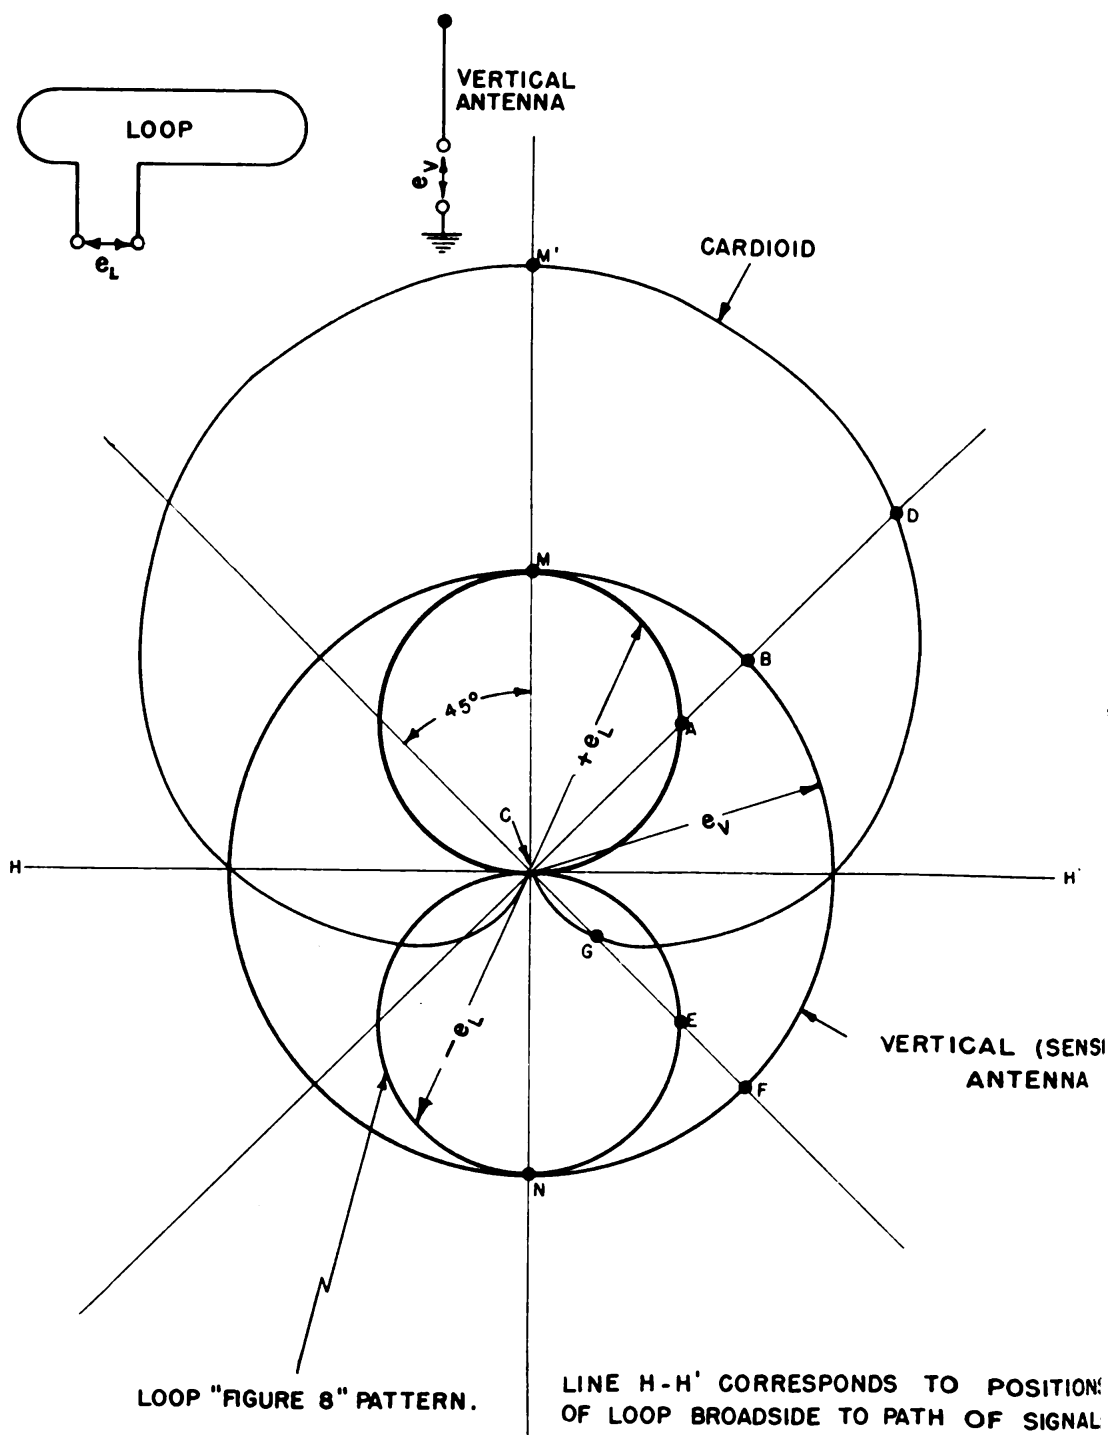
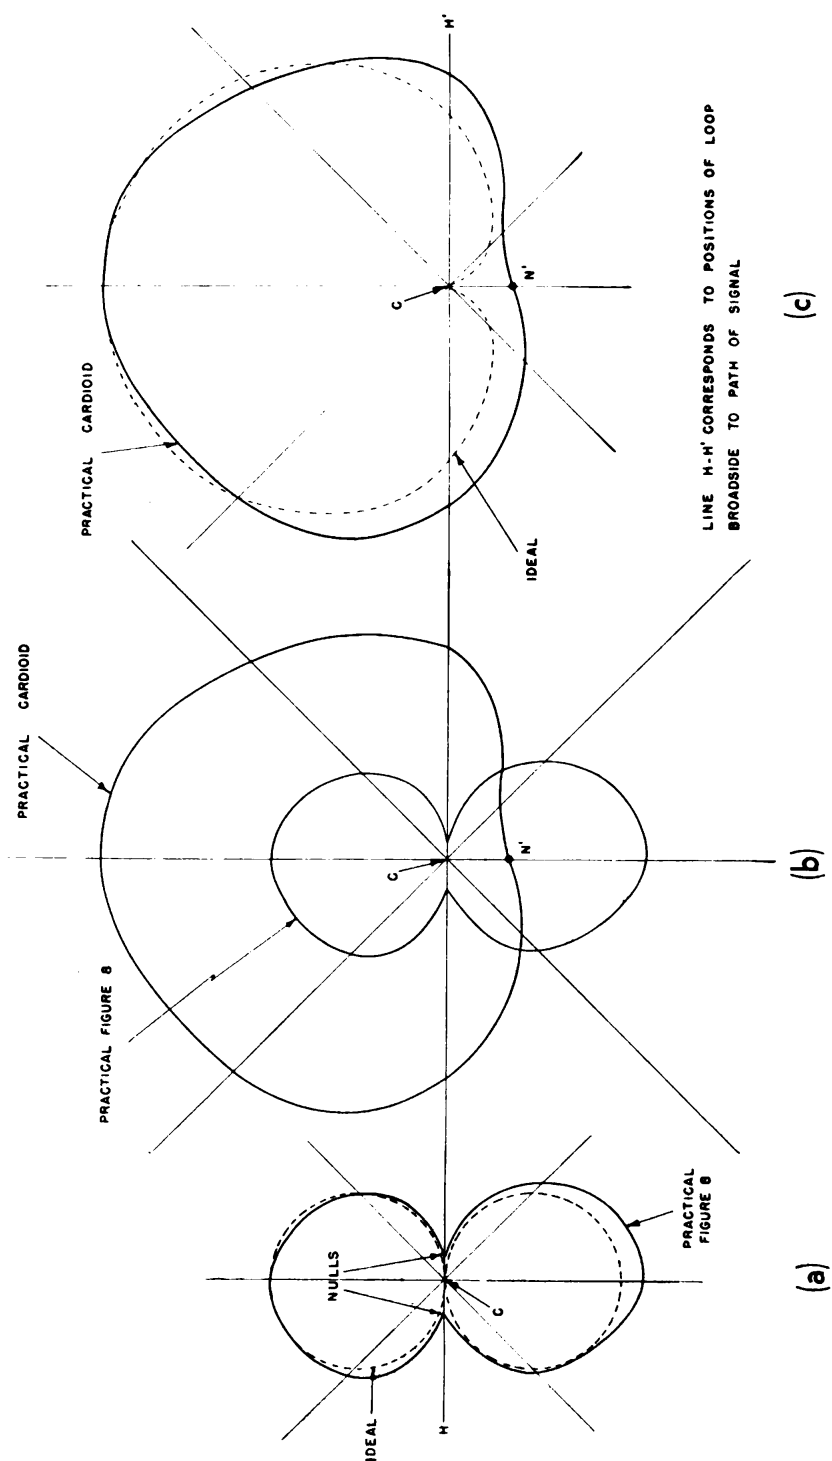

Figure 18. Derivation of Ideal Cardioid From Ideal Antenna Patterns
Figure 19. Practical Cardioid and Figure 8 Antenna Patterns
a. The directional characteristic of a loop antenna is shown in figure 18. This pattern is popularly known as a "figure 8". Under ideal conditions this pattern could be obtained by measuring the voltage at the terminals of a loop at successive angular positions of the loop as is it rotated through 360 degrees in a horizontal plane. The voltages measured are plotted as radial distances from the
center of the graph at C, figure 18. An examination of the ideal "figure 8" pattern shows that for two positions of the loop the voltage is zero. In these two positions the loop is broadside to the arriving waves. The maximum voltage points on the "figure 8" at M and N correspond to the two positions where the loop is in line with the path of the waves, that is at  $\pm 90^\circ$  from the broadside positions. The two positions giving zero voltage are referred to as the "nulls". The nulls are of great importance since they are a sensitive means of determining the path of the signal. However, when ideal conditions are no longer obtained (in a practical case), the nulls of the "figure 8" don't go to zero, as shown for the "practical" case in figure 19(a). Nevertheless, they can still be used as before, except that instead of observing an absolute zero, the minimum must be found.
c. In direction-finding it is necessary to know more than just the path of the signal, namely whether the signal is "coming or going". The latter operation is commonly referred to as finding the "sense" of the direction, or more simply just as "sensing". That is, in addition to the loop, which indicates by means of the "nulls" either of two directions from which the signal may be coming, a sensing device is needed to pick up the true direction. This need is filled by the vertical rod antenna (called "sensing" antenna) used in conjunction with the loop. The directional characteristic of a vertical antenna under ideal conditions is shown in figure 18 by the large circle. Stated in words, figure 18 says that the voltage produced by a vertical antenna remains the same when rotated about its axis. This is popularly known as a "non-directional pickup".
tern, likewise shown in figure 18, is called a cardioid because of its heart-like shape. The reason this shape is obtained when the "figure 8" and the circular pattern are added together is that the voltage in the lower lobe of the "figure 8" is opposite in time-phase to the voltage in the circle pattern, while the time-phase of the voltage in the upper lobe of the "figure 8" is in agreement with that of the circle pattern. Thus for each direction above the horizontal line H-H' (running through the nulls) the voltages add together such as:  $CA + CB = CD$ ; and for each direction below the horizontal line the "figure 8" voltage subtracts from the circle voltage, such as:  $CF - CE = CG$ .
The most notable departure of an actual sense curve or practical cardioid is shown in figure 19 (c) by the failure of the curve at N' to go through C. This is caused by the failure of the voltages from loop and vertical antenna to cancel each other as a result of phase shift and unequal "pickup".